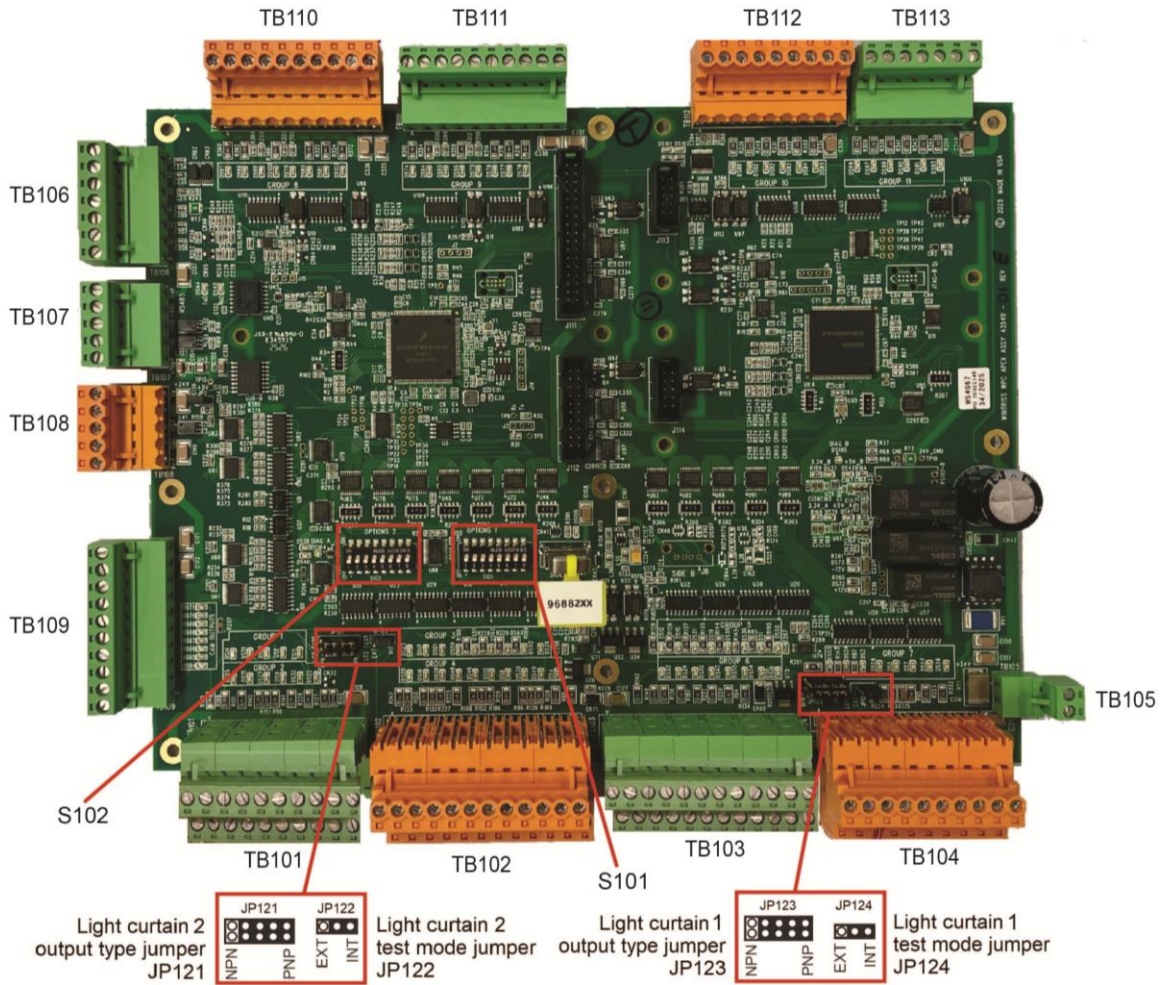

Figure 2-11. WPC APEX Main Processor Board Showing Important Components
When you install Shadow VII, Shadow 8, or Shadow 9 light curtains on your press, you must set jumpers JP121-JP124 on the WPC APEX Main Processor board (see Figure 2-11, page 67) to the positions shown in Table 2-1. Wiring diagrams are provided in figures 15 (Shadow VII control box), 16 (Shadow VII DIN controller), 18 (Shadow 8 optional control), 19 (Shadow 8 wired directly to WPC APEX), 25 (Shadow 9 optional control), 26 (Shadow 9 wired directly to WPC APEX), 27 (dual Shadow 9 wired directly to WPC APEX) at the end of the manual.
3. Find the resolver terminal block, TB 106, on the WPC APEX Main Processor board (see Figure 2-11, page 67), and remove the L-shaped connector.